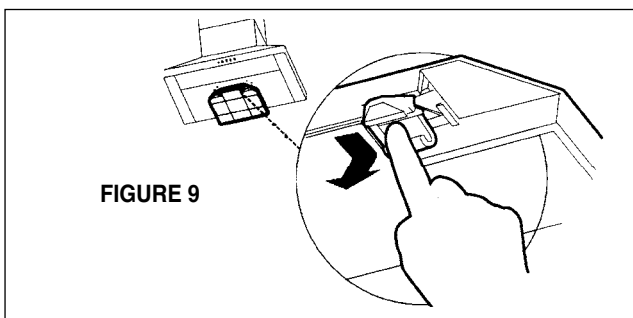

FIGURE 9
2. Install the CHARCOAL FILTER (6) behind the center grease filter opening by inserting and locking into place, as indicated in **FIGURE 9**.